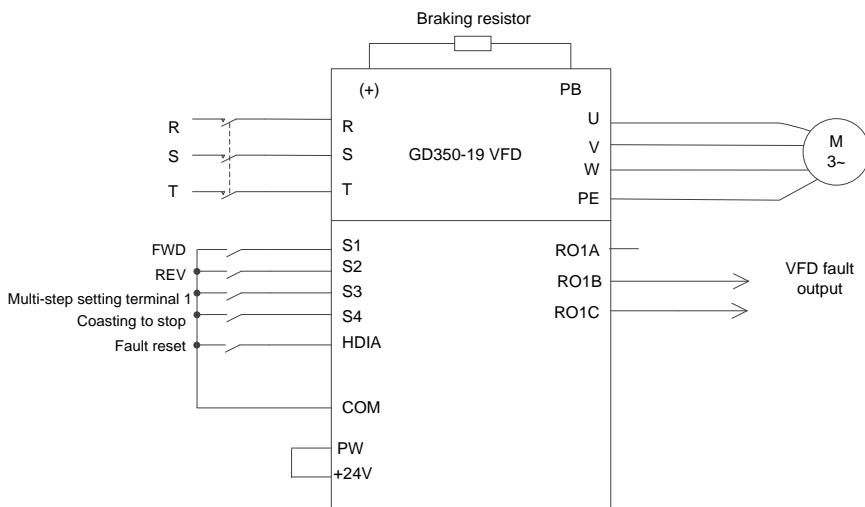

Figure 5.5 Wiring for the conical motor
**Note:** If the wiring is performed according to Figure 5.5, most VFD parameters need no adjustment. If the onsite function terminals are inconsistent with the terminals shown in the figure, adjust the input and output terminal functions according to the actual wiring after selecting the conical motor application macro.